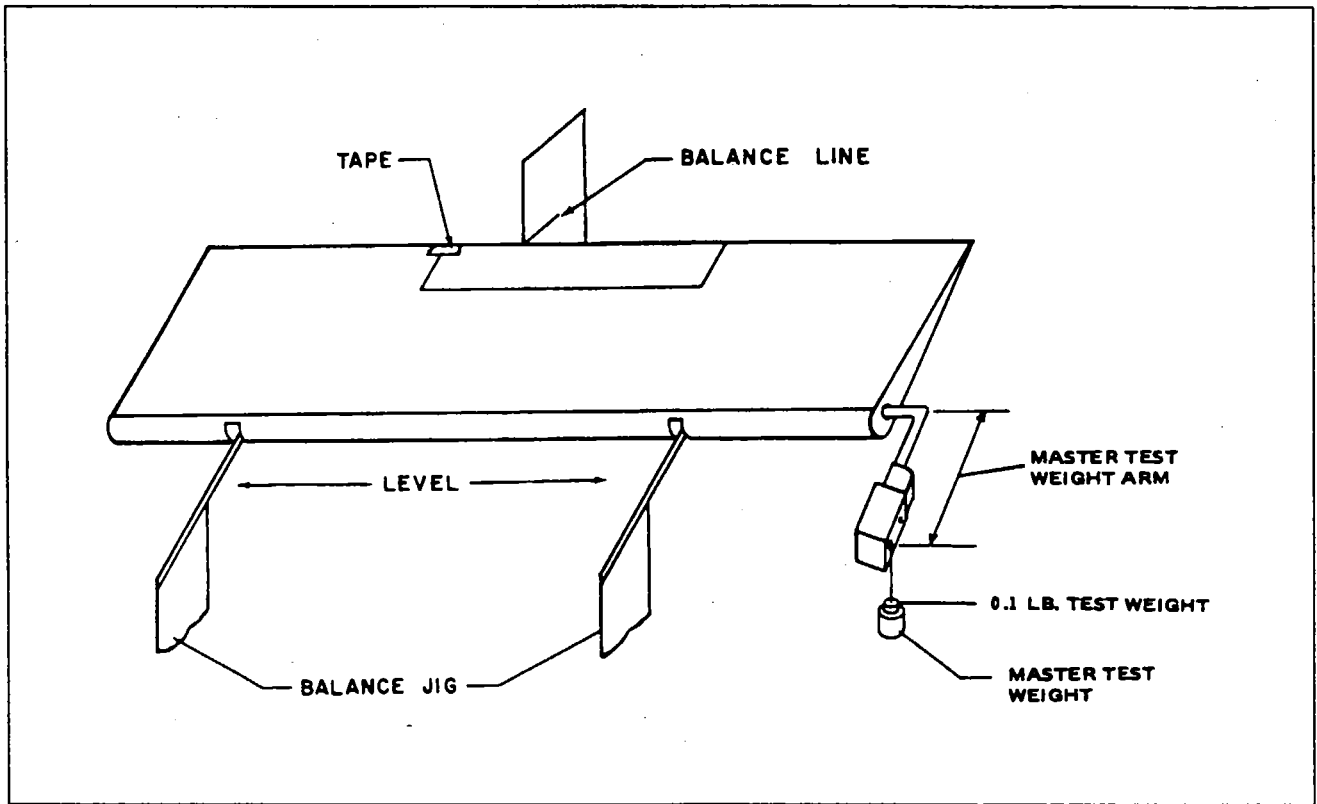

Figure 4-10. Checking Aileron Balance
4-82. BALANCING EQUIPMENT. Balancing must be done using the test weights called for in the text and Table IV-I for each surface. Any control surface being balanced must be removed from the aircraft and placed in a test fixture (jig) as shown in Figures 4-10, 4-11 and 4-12. The balancing must be accomplished in a draft free area and in a manner which allows unrestricted movement of the control surface.
4-83. AILERON BALANCING PROCEDURE. (Refer to Figure 4-10.)
- b. Place the aileron on the balancing jig as illustrated in Figure 4-10. Establish a horizontal reference mark which aligns with the trailing edge of the aileron when it is held in a horizontally level position (cord line level).